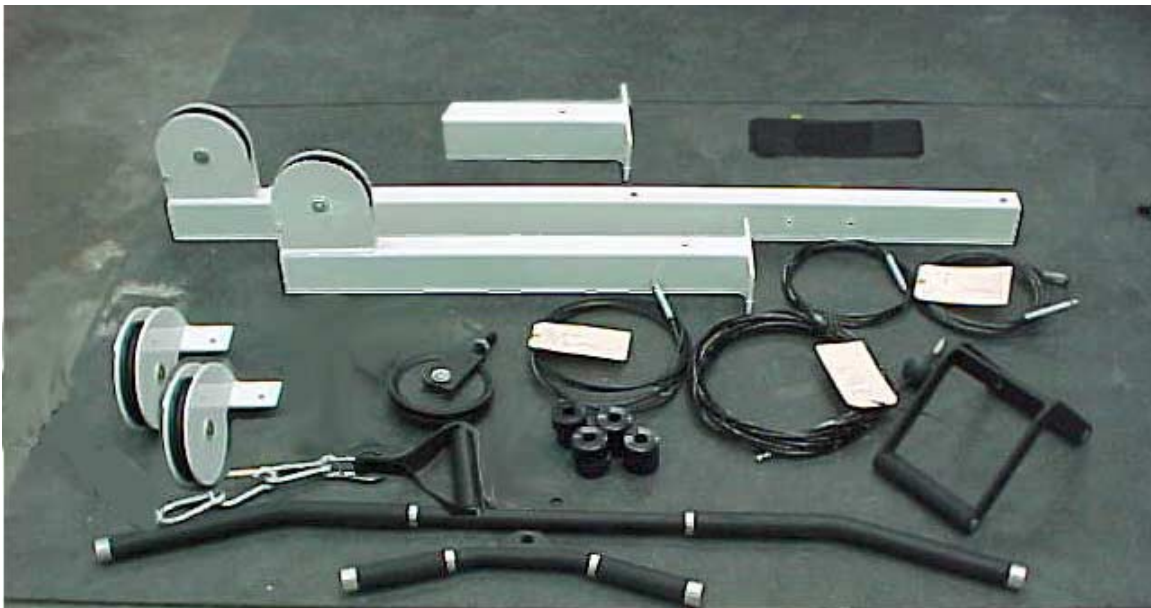

Figure 1. Parts box contents.
3. Remove the items in the parts box. These items are shown in Figure 1.
Hardware Figure 1. Assembly Parts.
The parts shown in Hardware Figure 1 are used to assemble the SM40. They are: